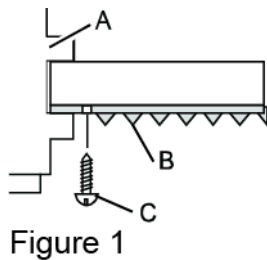

Figure 1
- Vinyl Windows - Use a  $\frac{1}{8}$ " drill bit to drill two holes through the holes in the side curtains into the window frame. Screw in the #10 x  $\frac{3}{4}$ " Flat Screw through the holes in the side curtains into the window sash. Refer to figure 1 above.